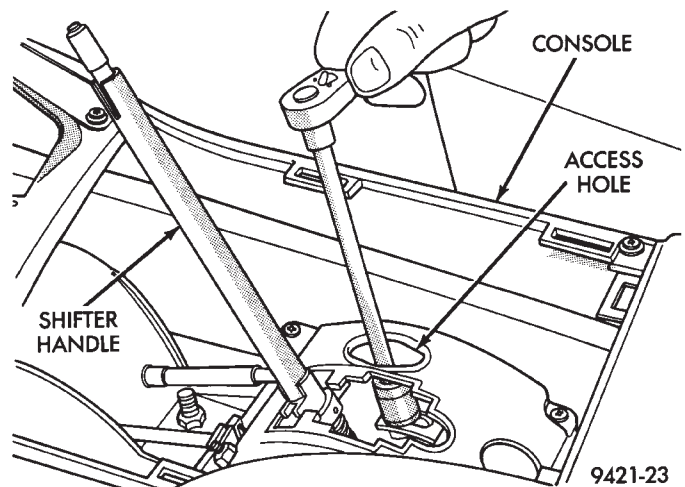

Fig. 27 Shift Cable Adjust Lever Nut
- (3) Loosen nut on shift cable adjust lever (Fig. 27).
- (4) Remove retaining clip from shift cable conduit bracket.